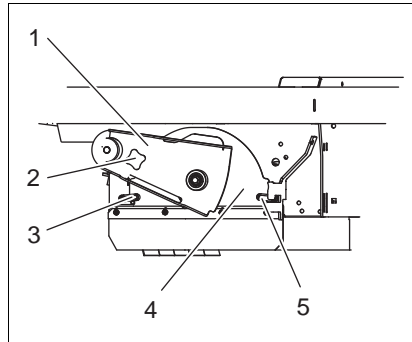

Fig.12 Kehrwalze ausbauen
- Loosen star knob (Fig. 12/2) and remove
- Remove cylinder broom seating (Fig. 12/1)
- Turn handle (Fig. 12/3 + 5) upwards and unlock
- Remove plate with sealing strip (Fig. 12/4)